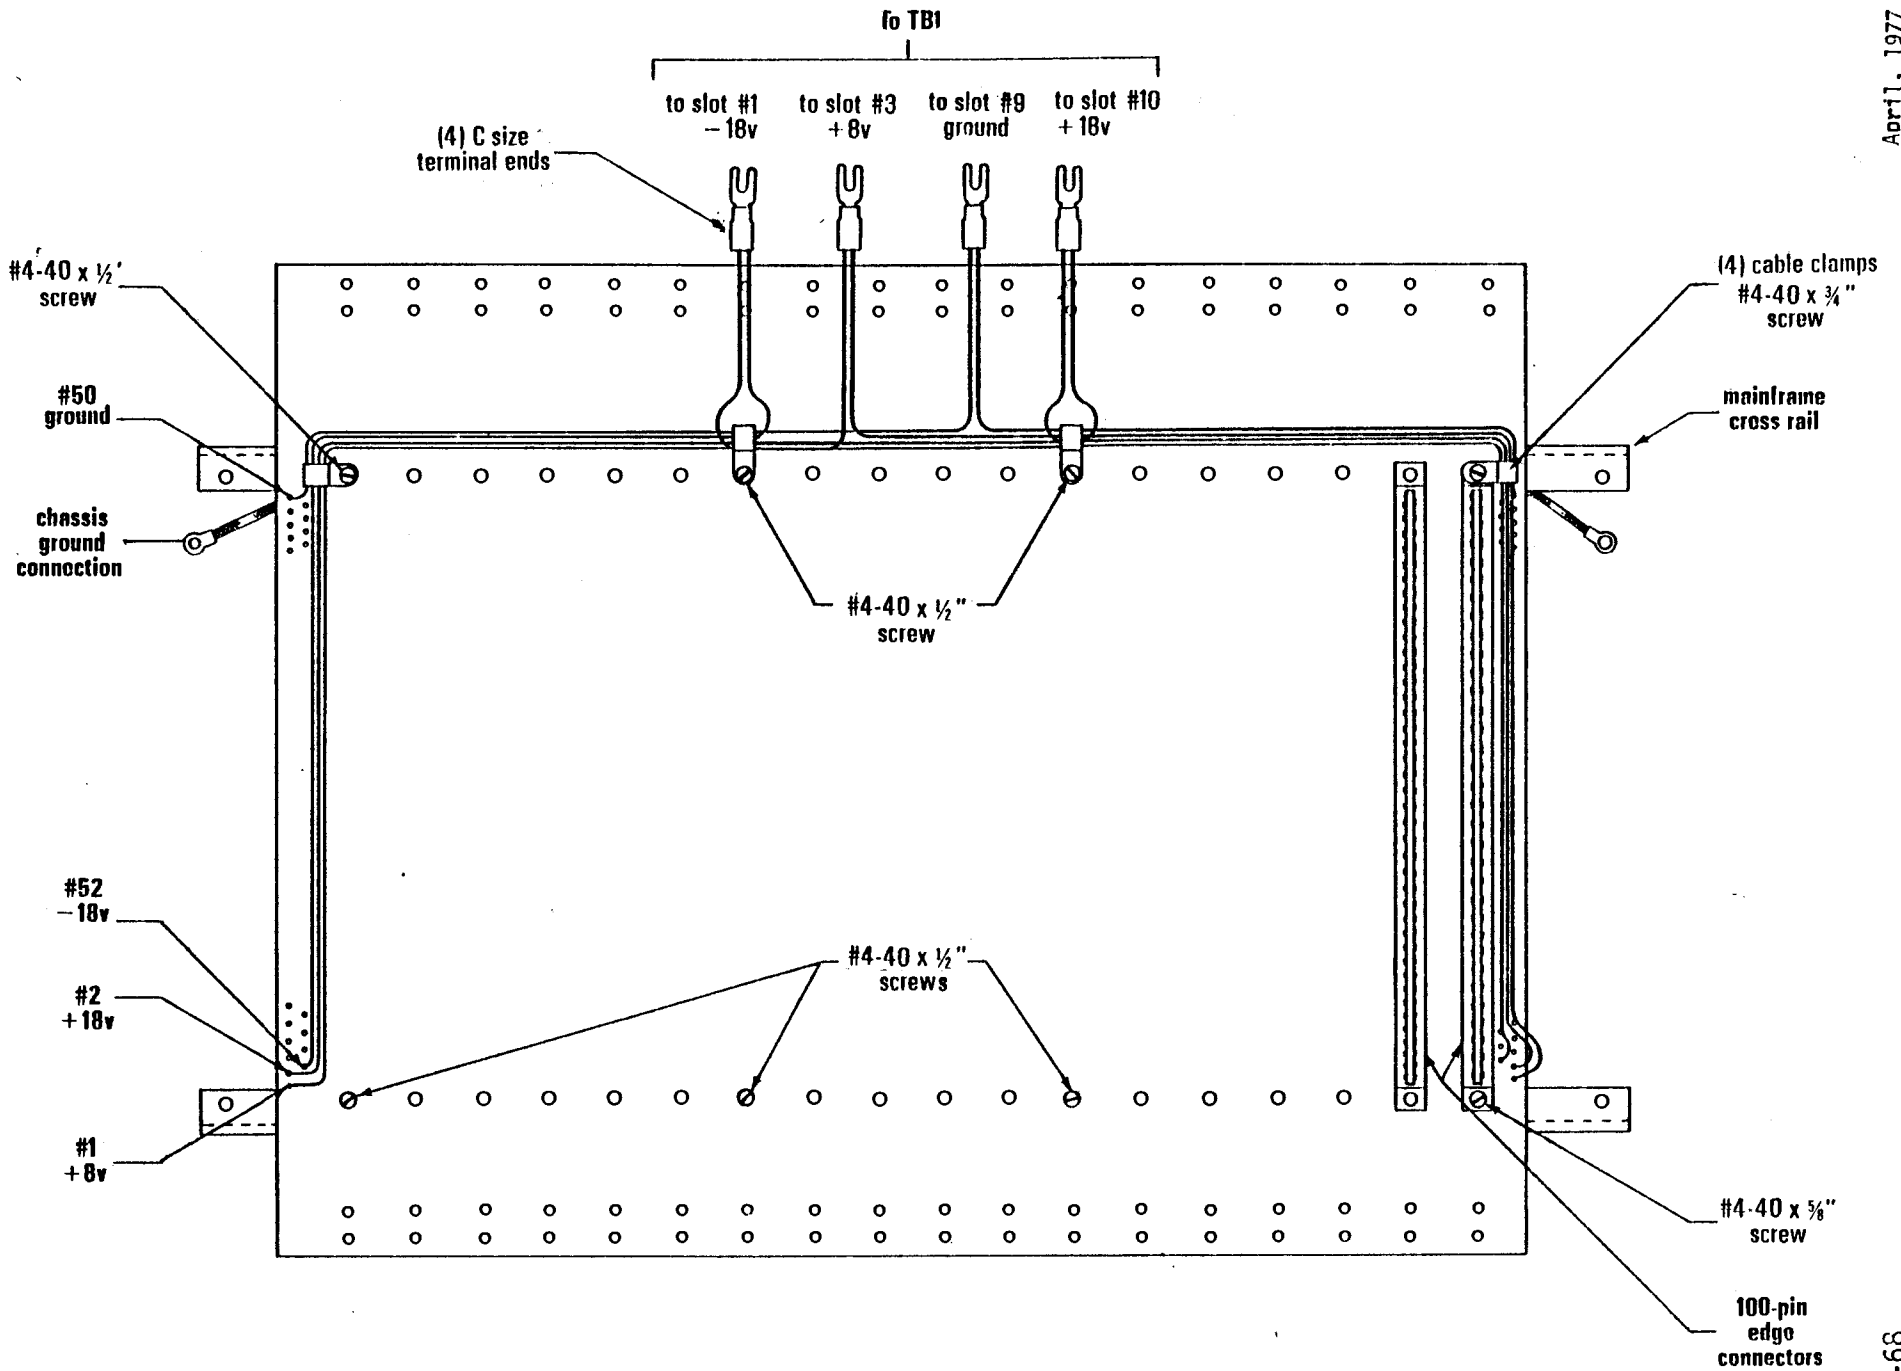

Figure 5-61. Motherboard Wire Connections
### 5-70. BUS WIRE CONNECTIONS (Figure 5-61)
Refer to Figure 5-61. Note that the two outside rows of holes on either side of the motherboard each have four wire connections. These are the +8v, -18v, +18v and ground lines to the power supply from the bus. The wire connections are made by inserting the end of the wire from the top side of the motherboard and soldering it to the foil (bottom) side. On the foil side of the motherboard, hole #1 and hole #50 are marked on each side. Complete the wire connections according to the following instructions:
(Figures 5-61 and 5-62)
At this time, the edge connectors, cable clamps, mainframe cross rails, and card guides will all be assembled onto the motherboard according to Figures 5-61 and 5-62 and the following instructions.
1. Position the two 100-pin edge connectors on the motherboard as shown in Figure 5-61. Carefully insert the connector pins into their respective holes. If necessary, guide some of the pins with the tip of a small screwdriver. Be sure that the connector is tight against the board and that all 100 pins have been inserted. Solder each connector pin to the foil pattern on the bottom of the board.
3. Remove the two cross rails from the mainframe. Mount the cross rails to the bottom of the motherboard using eight screws, positioned as shown in Figure 5-61. Attach cable clamps to the four back mounting screws and run the bus wires through the cable clamps before tightening the screws down.
4. Match up the four pairs of bus wires at the back of the motherboard as shown in Figure 5-61. Attach a size C terminal end to each pair. Make sure the correct wires have been paired off: